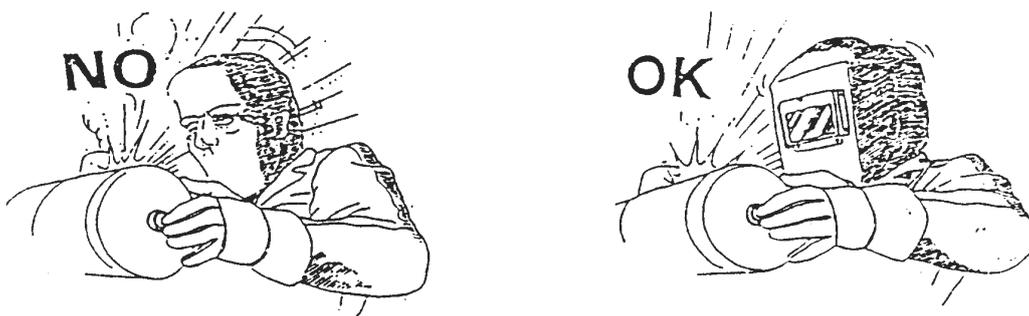

FIG.4
- Never, under any circumstances, look at an electric arc without suitable eye protection (Fig. 4).